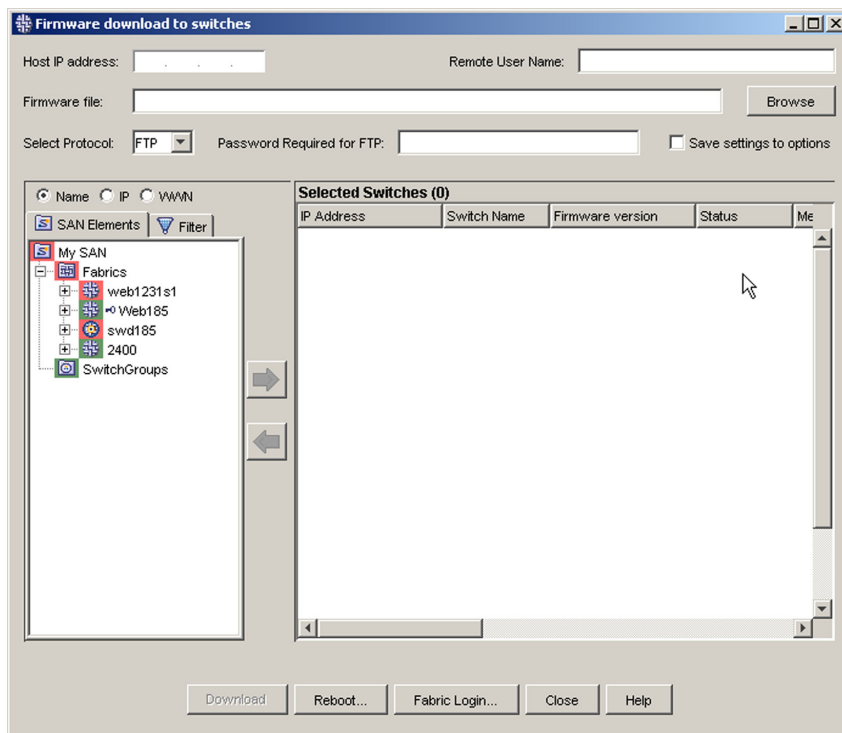

Figure 3: Firmware download to switches window
3. From the **Tools** menu, select **Firmware download to switches** The Firmware download to switches window opens. This window is displayed in Figure 3.